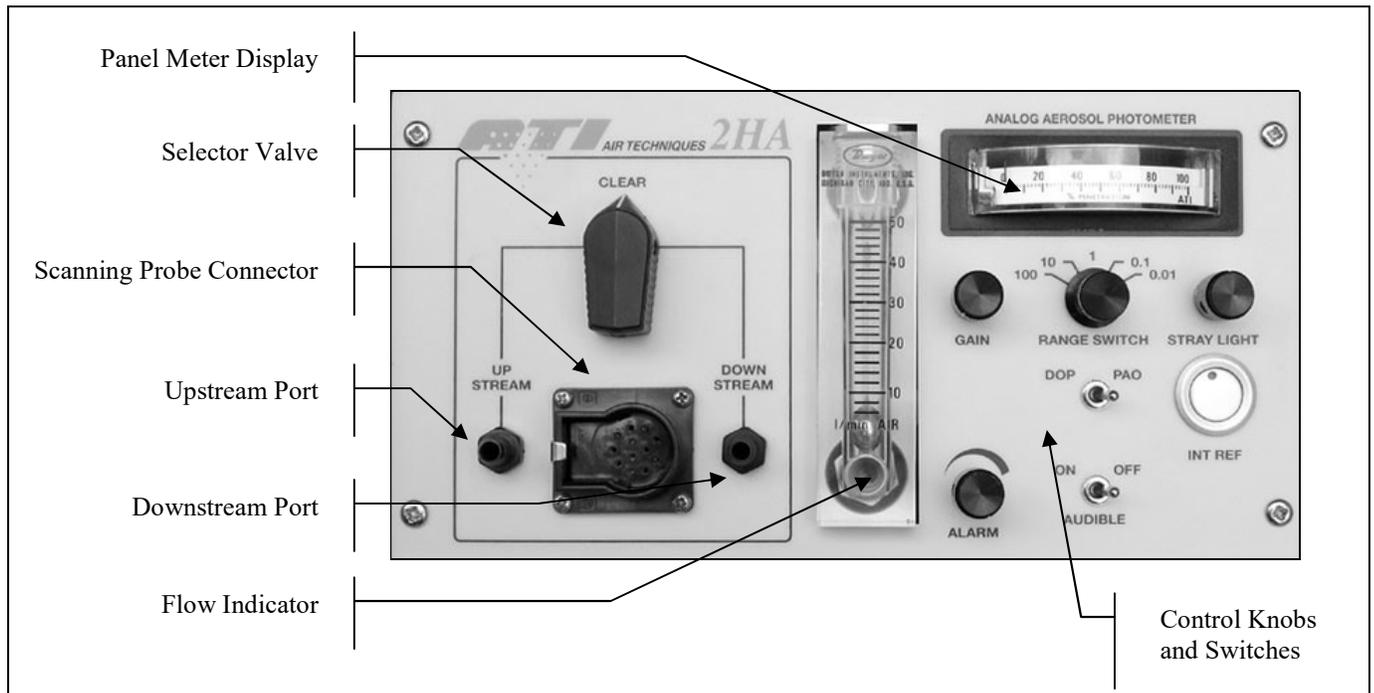

Figure 2
- If using the Aerosol Photometer with the standard clear PVC tubing: connect one end of the sampling hose to the barbed "DOWNSTREAM" port of the unit located on the front panel (Refer to figure 2 for the location of ports on the unit).
- If using the Aerosol Photometer with the optional scanning probe: connect the probe ¼" ID sampling hose to the barbed "DOWNSTREAM" port of the unit and connect the probe's electrical connector to the 12-pin connector on the front panel of the unit before applying the power to the unit (Refer to figure 2 for the location of the ports and scanning probe connector).